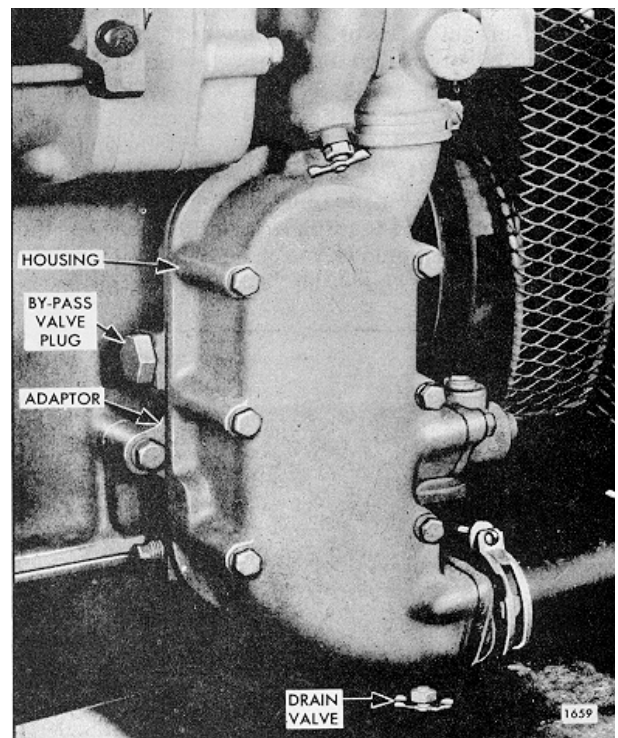

Fig. 1. Typical Lubricating Oil Cooler Mounting
1. Drain cooling system by opening the drain cock (Fig. 1) at the bottom of the oil cooler housing.